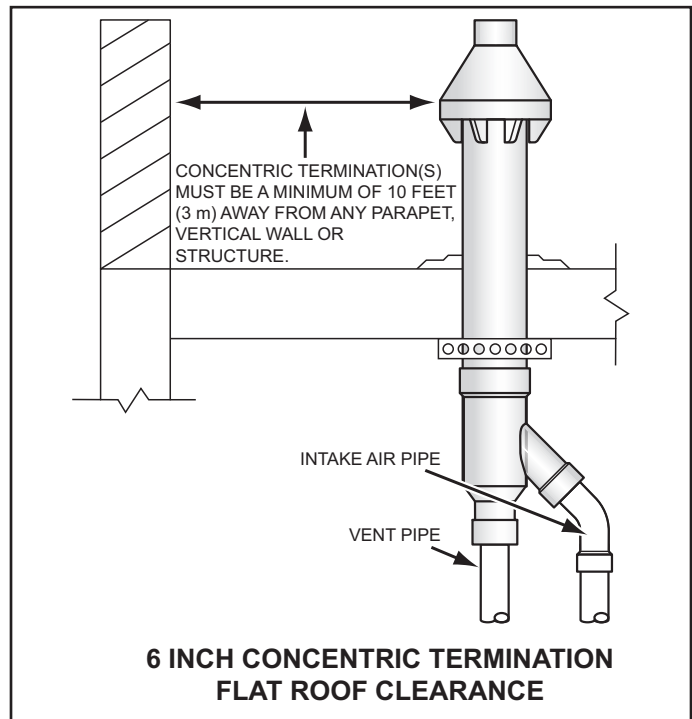
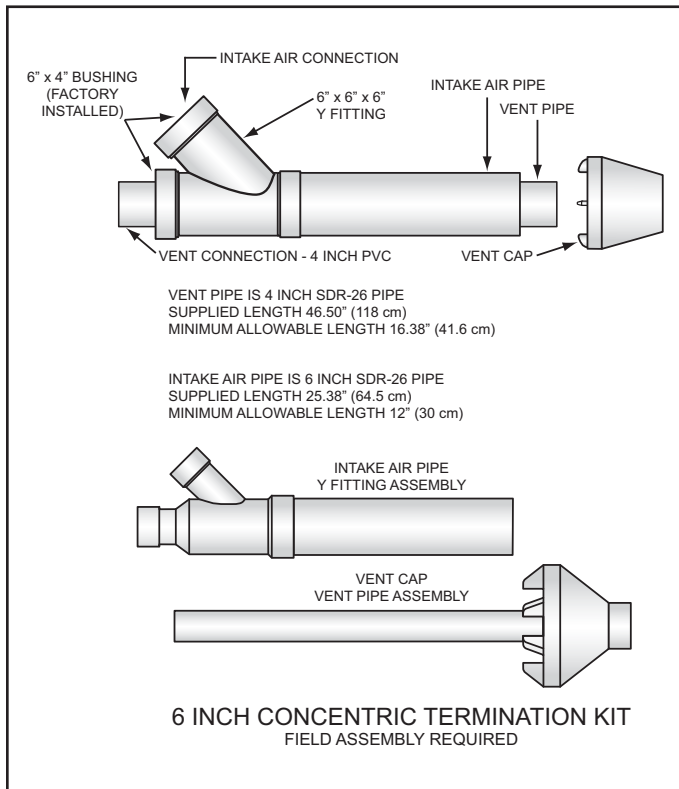
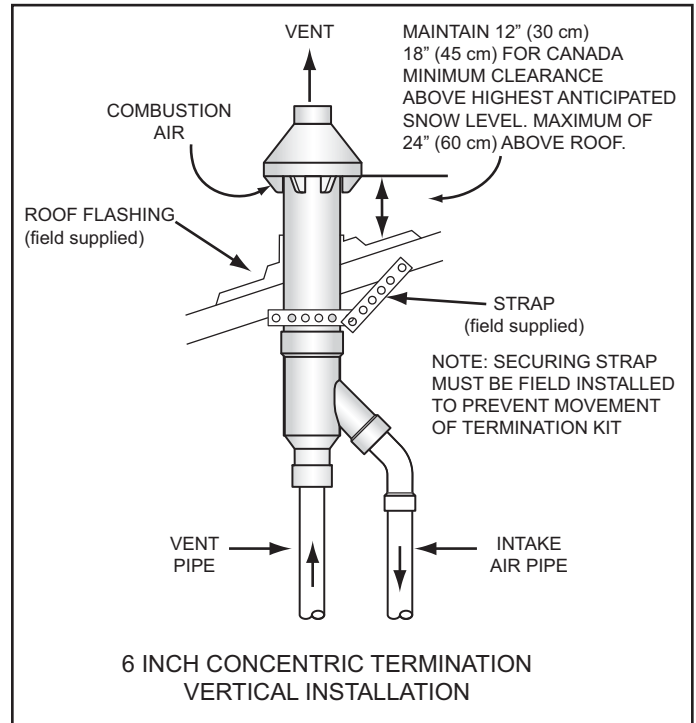
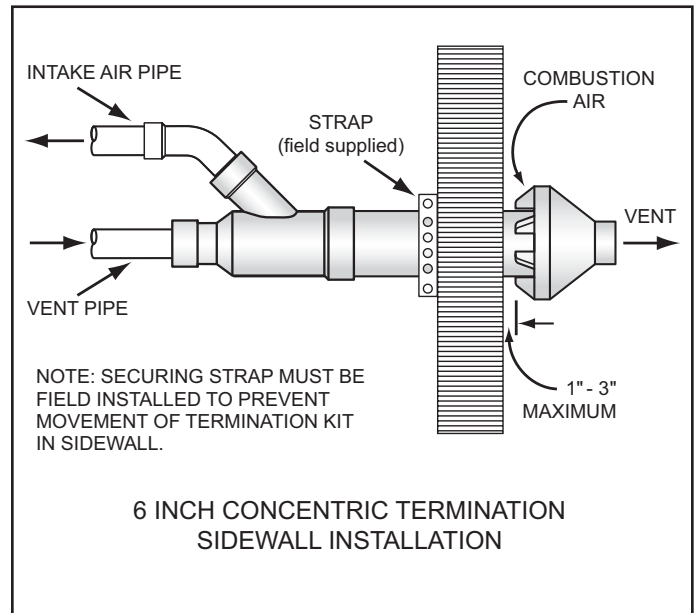

Figure 24
Figure 25
Figure 26
Figure 27
3. When installing a concentric termination vertically through the roof; ensure that all exterior vertical clearance requirements for the concentric termination, shown in Figure 24 and Figure 26 on page 29, are being maintained. These clearances and those cited by local and national codes must be maintained.
4. When installing a concentric termination vertically through a flat roof, the termination's vent cap must be a minimum of 10 feet (3 m) away from any parapet, vertical wall or structure as shown in Figure 24.
See Figure 25 for the minimum lengths allowed for the 6 inch concentric termination.
Assemble and install the 6 inch concentric termination. Refer to Figure 25, Figure 26 and Figure 27 for these instructions: